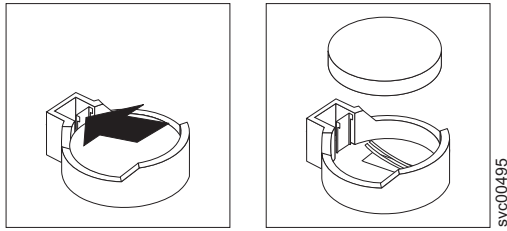

Figure 136. Removing the SAN Volume Controller 2145-8A4 CMOS battery
7. Remove the CMOS battery, as shown in Figure 136 on page 131: